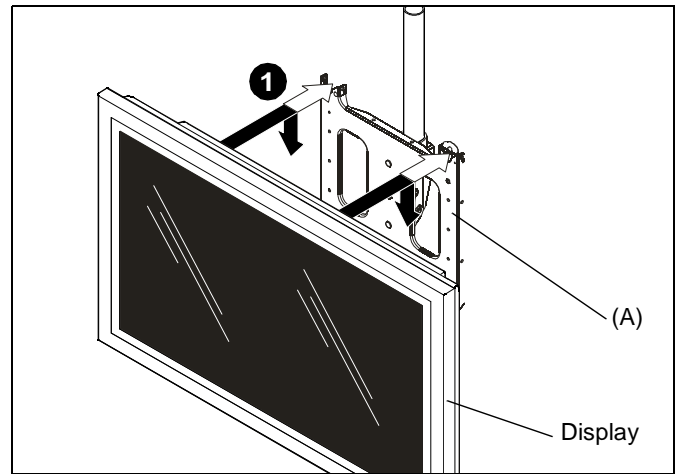

Figure 2
1. While supporting both sides of display, align four mounting buttons on interface bracket with four mounting holes in PCS (A). (See Figures 2, 3 and 4)
2. Lower display into place listening for audible "click" to ensure recessed area of mounting buttons are properly seated in lower area of mounting holes, and ClickConnect mechanism has engaged. (See Fig. 2, 3 and 4)